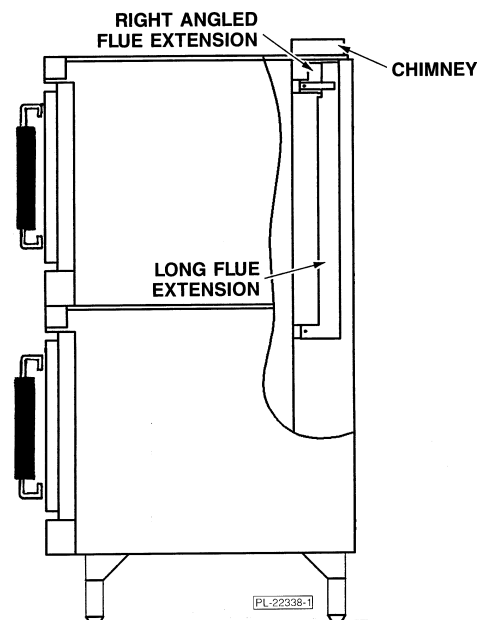

Fig. 3
4. Remove oven chimneys stored at the rear of both ovens. Discard one chimney. Attach the remaining chimney to the top of the upper oven (oven without legs) (Fig. 3). The flanges on the chimney are to be positioned under the top cover.
6. Attach the short flue extension over the exhaust vent at the rear of the upper oven. Slide the long flue extension tube over the exhaust vent at the rear of the lower oven (Fig. 3). These extensions should direct the exhaust fumes upward through and above the top oven.